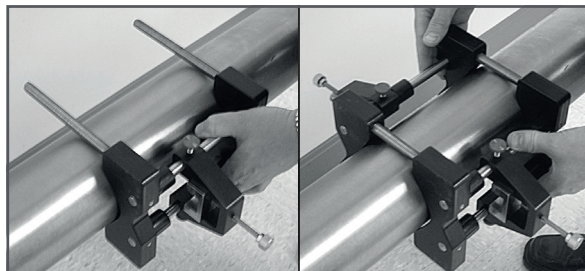

Figure 16: Mounting the Two Halves of the Fixture
1. Position the half of the clamping fixture with the threaded rods around the pipe, as shown in *Figure 16*. Orient the fixture in the 3 o'clock position on a horizontal pipe.
2. Position the mating half of the fixture over the threaded rods in the 9 o'clock position. *Figure 16* shows the two mounted halves.